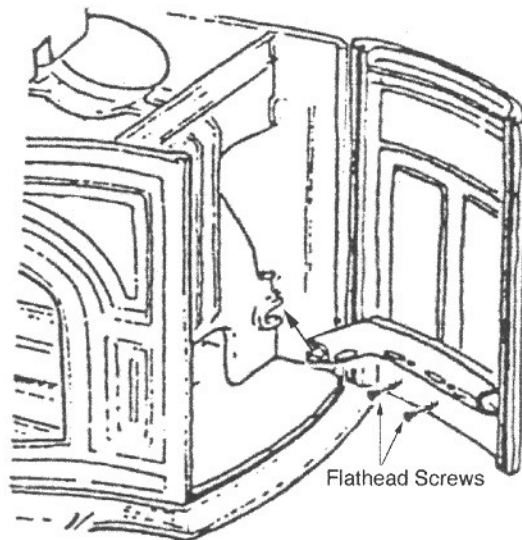

FIG. 14 Install Secondary Air Tube
- To install the secondary air tube extension, place the back end of the tube in position against the support leg and baffle, and then swing the front of the tube against the side of the stove. Screw the secondary air tube extension to the right end with two 1/4"-20x1 1/2" flathead screws. (Fig. 14).